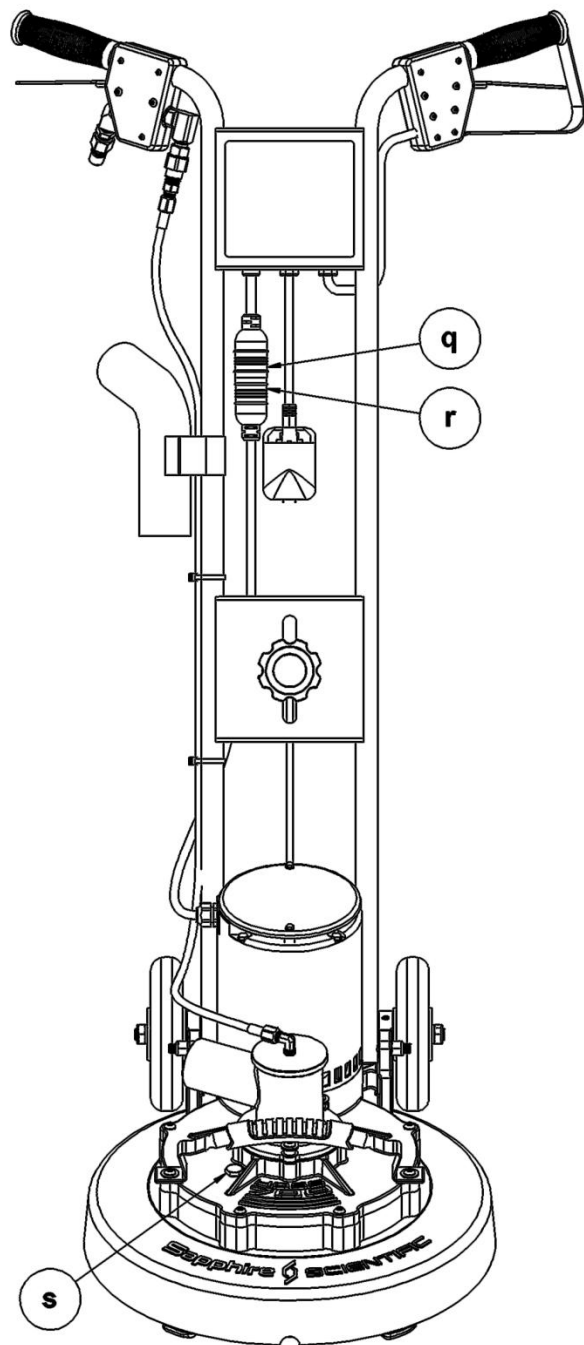

Figure 7.
6. Connect the Power Cord Ends (Figure 7.)
Connect the Twist-Lock power cord connectors (q), (r) by inserting the plug into the receptacle as shown in Figure 7 and turning slightly until the two connectors “lock” together.
7. Install the Vent Plug (Figure 7)
Replace the temporary gear box plug (s) with the supplied vent plug (t) as shown in Figure 7.